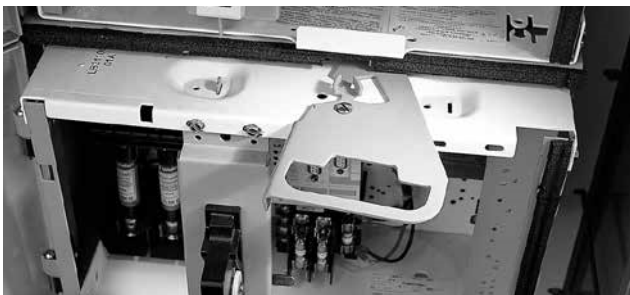

Figure 47. Racking lever allows easy unit removal
1. Put the disconnect operating handle in the "OFF" position (Figure 47). The interlocking mechanism will not permit removing or inserting the unit with the handle in the "ON" position.
4. Move the unit to the "test" position by opening the racking lever (Figure 47) on the top barrier plate while pulling on the supplementary installation handle on the bottom barrier plate. The unit can be padlocked in the test position (Figure 54).